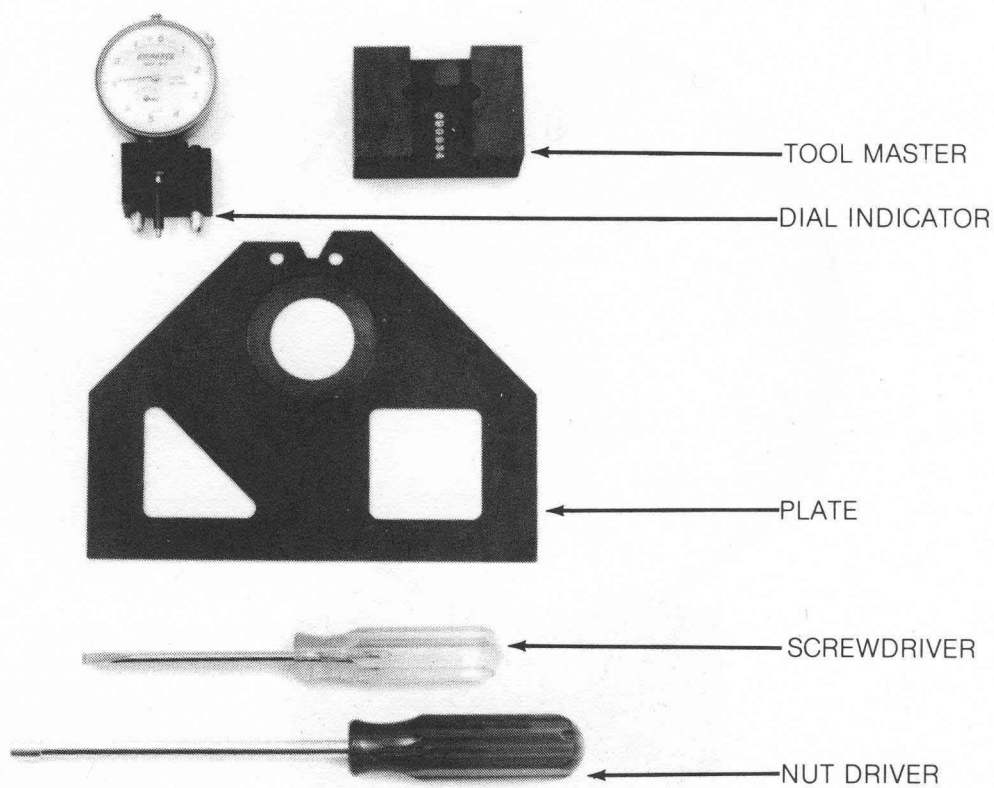

FIGURE 38. HEAD PENETRATION TOOLS
- a. The tools necessary to perform this alignment procedure will consist of penetration gauge tool set, screwdriver and $\frac{1}{4}$ " nut driver (see Figure 38).